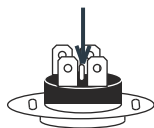

Fig. 10
5. **The water heater is equipped with a temperature limiter (figure 10)** which cuts off power supply to the heating element upon water overheating or its absence in the water heater. If the water heater is connected to the electrical main, but water does not heat and the handle lamp does not light then the temperature limiter was switched off or not switched on. To reset the water heater to the operating condition it is necessary to: